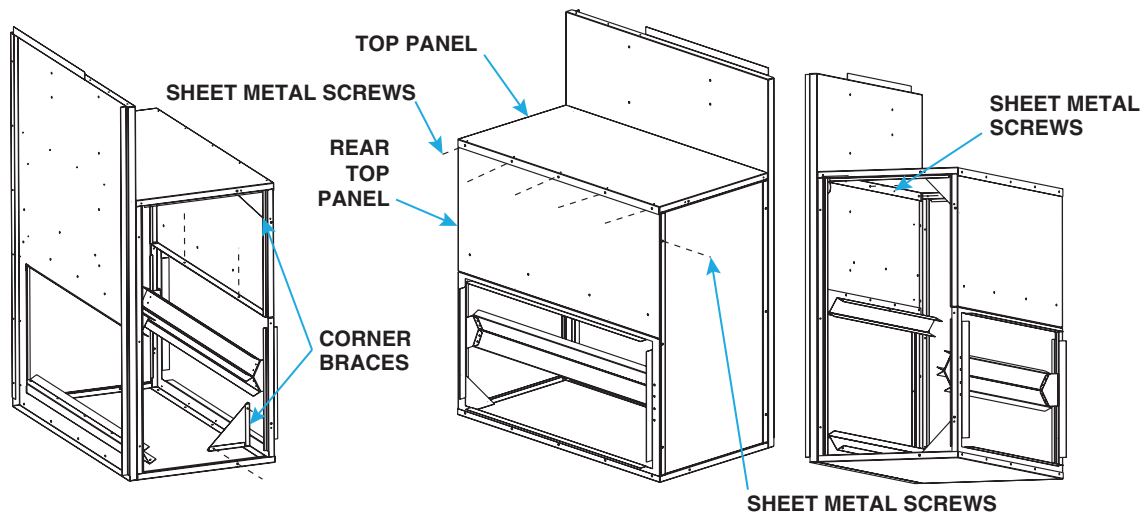

Figure 11. Install Horizontal Inlet Filter Cabinet on Heater
4. Install rear top panel, top panel, and corner braces and secure filter cabinet to heater cabinet as shown in **Figure 11**: